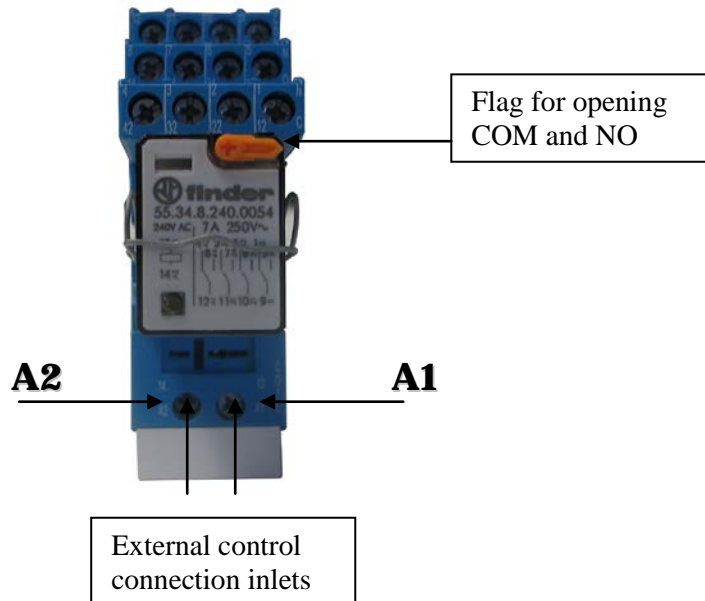

Figure: 2
3. Connect the External control signaling cable to A1 and A2 terminal. (*see figure 2 p.12*)